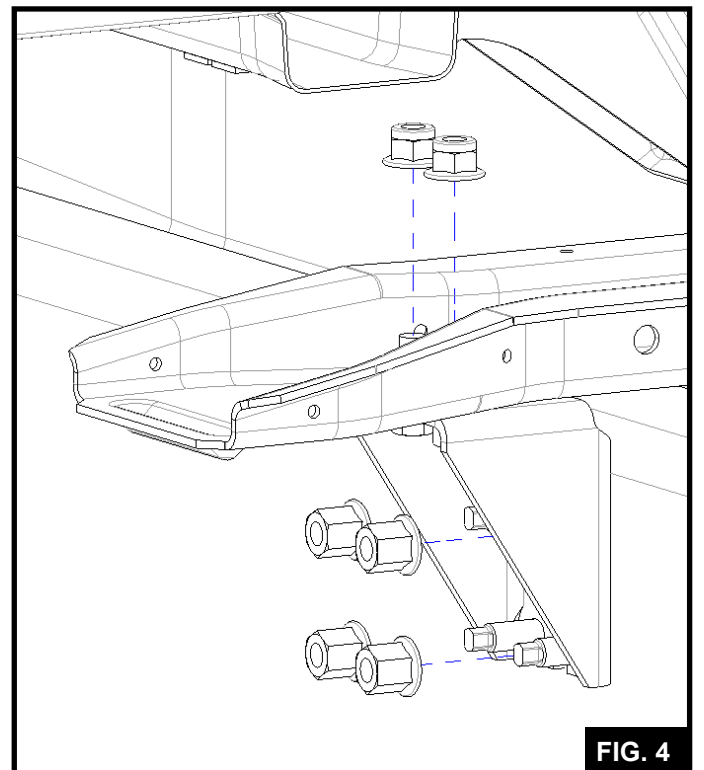

FIG. 4
Remove the (4) bolts and (4) nuts securing the crossmember to the frame of the truck (**FIG.4**). In some configurations these bolts pass through a crossmember bracket. In these cases, retain the fasteners for reuse in steps 7.4 and 7.5.
**NOTE:** It may be necessary to remove the (4) nuts securing the crossmember to the frame mounts to remove the crossmember assembly. (Two nuts on each side) (**FIG.4**)